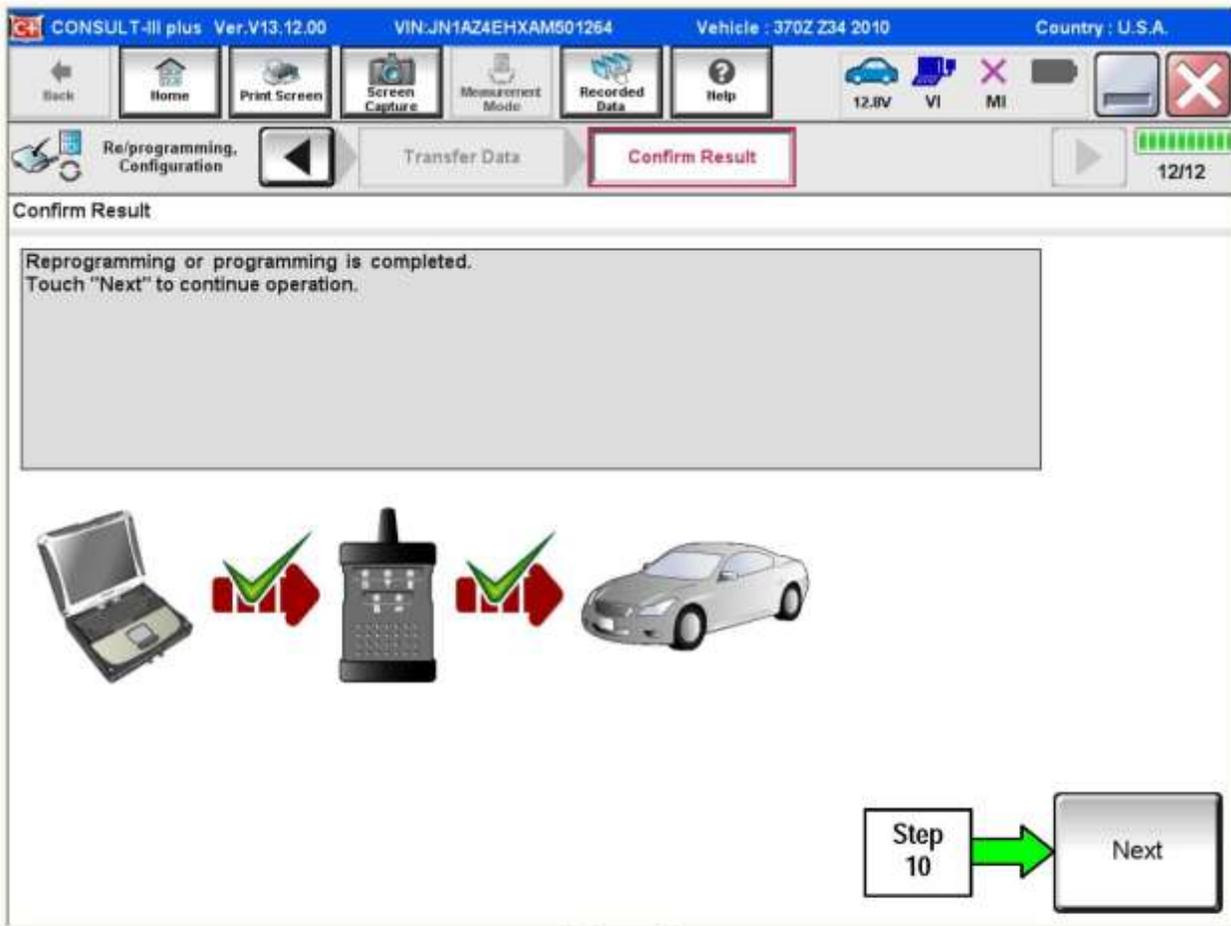

Figure 4
8. When the screen in Figure 4 displays, reprogramming is complete.
If the screen in Figure 4 does not display (reprogramming does not complete), refer to ECM recovery.